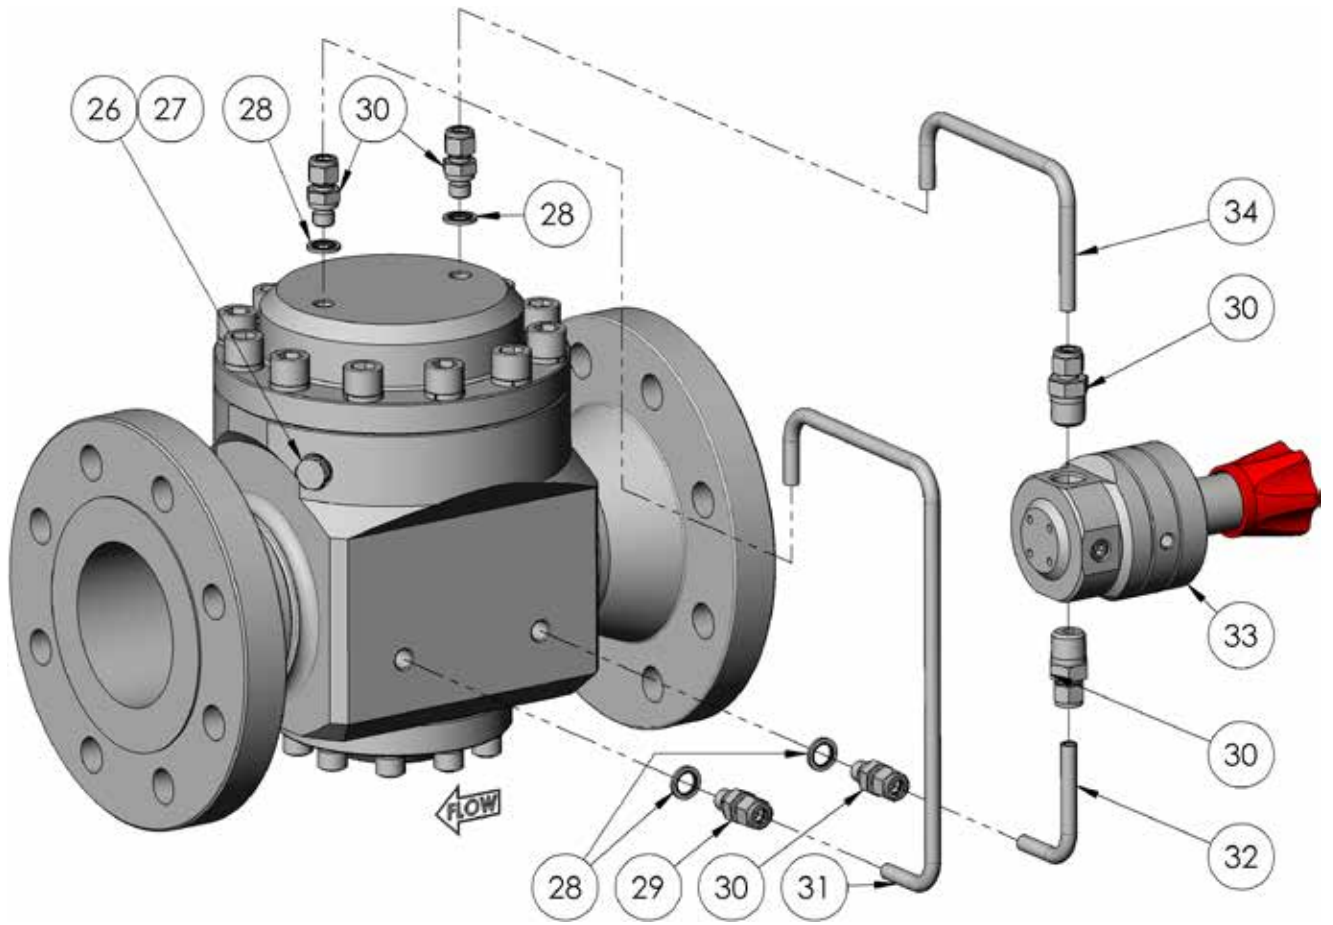
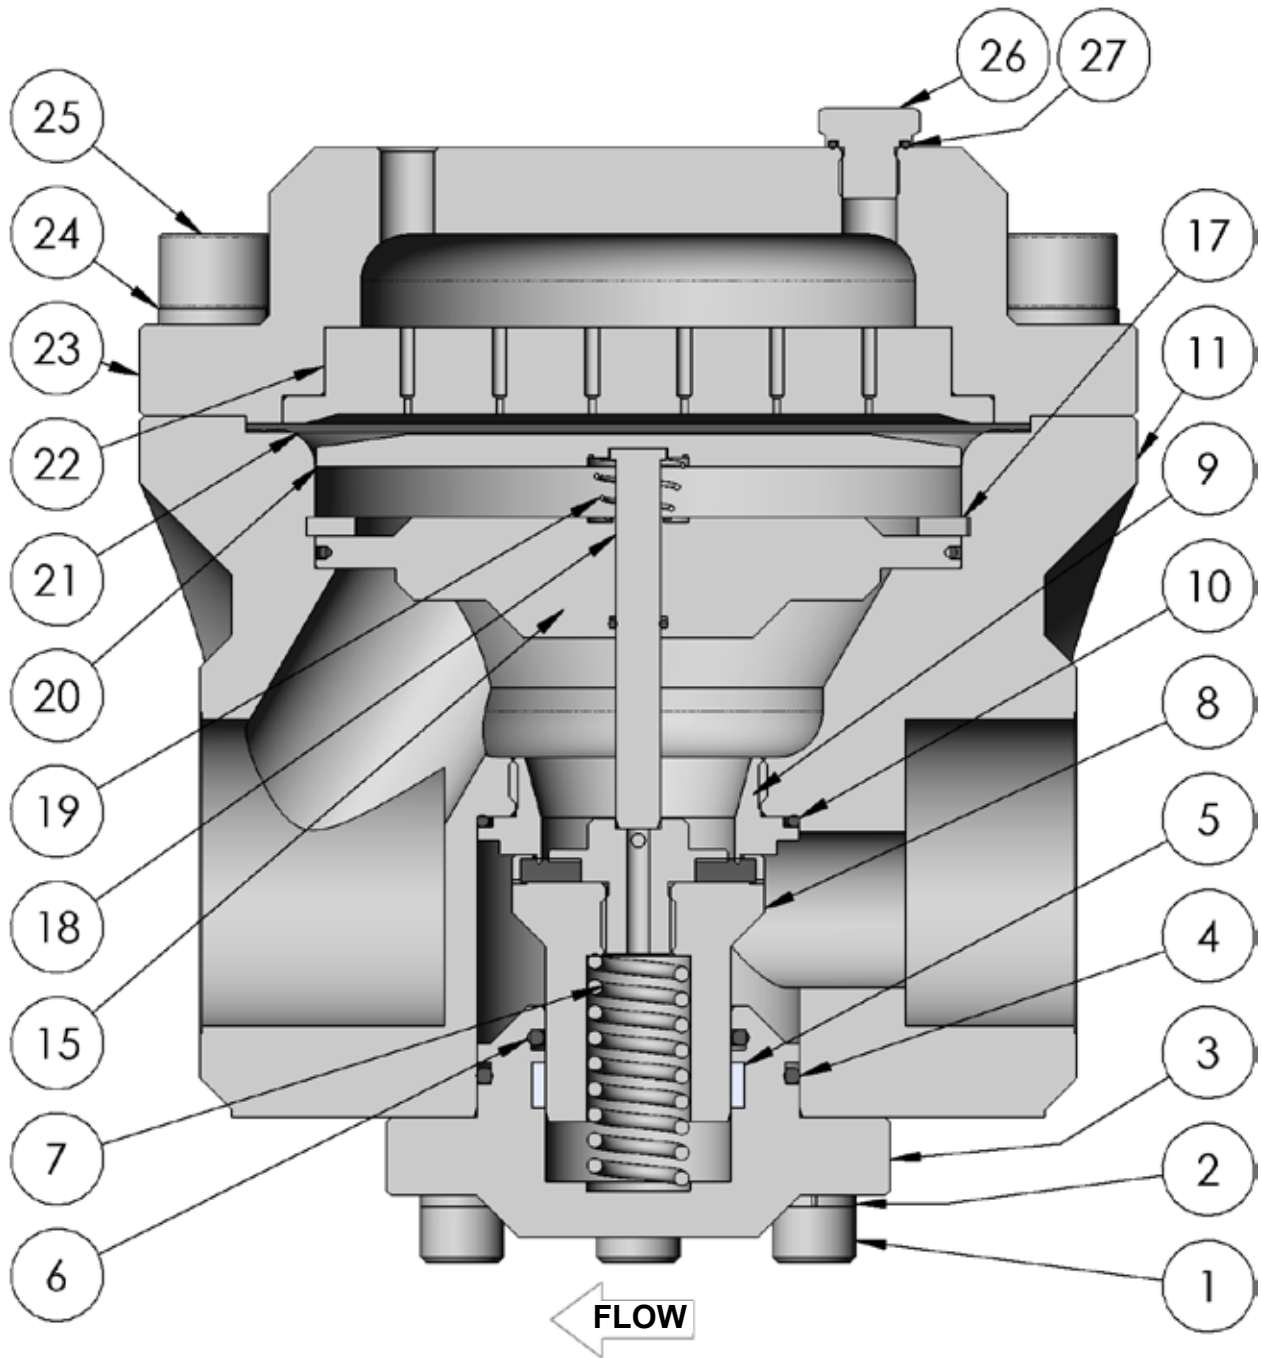

Fig 8
Fig 9
1. Fit the body plate (15) into the body (11) and retain with the retaining ring (17).
2. Fit the seat O-ring (10) into the body (11) and ensure that it is seated all the way round.
3. Lightly lubricate the seat threads (9) then insert the seat into the body (11) using the seat insertion tool. Torque to 22 lbf·ft (30 N·m). Take care not to pinch the seat O-ring (10) or damage the seat (9) with the tool.
4. Insert the poppet (8) through the seat (9) and, if applicable, body plate (15). Take care not to damage either the seat (9) or poppet (8).
5. Place the poppet spring (7) into the poppet (8).
6. Fit the body plug O-ring (4), poppet O-ring (6), and guide ring (5) onto and into the body plug (3).
7. Lightly lubricate the poppet O-ring (6) then fit the body plug (3) over the poppet spring (7) and poppet (8).
8. Lightly lubricate the cap screw threads (1) then use them and the washers (2) to secure the body plug (3) to the body (11). Torque to 37 lbf·ft (50 N·m).
9. For RD30 only, insert the poppet stem (18) through the body plate (15). Reference Fig 9.
10. Place the conical spring (19) onto the body plate (15) then place the diaphragm plate (20) into the body (11).
11. Place the diaphragm (21) onto the diaphragm plate (20) and locate it in the body (11).
12. Place the dome plate (22) centrally onto the diaphragm (21) then cover with the dome (23). Orient the dome ports per Fig 8.
13. Lightly lubricate the cap screw threads (25) then use them and the washers (24) to secure the dome (23) to the body (11). Torque to 66 lbf·ft (90 N·m).
14. If present, install the feed tube (32), dome tube (34) and pilot regulator (33) into the ports on the inlet side of the body (11) per Fig 8.
15. If present, install the bleed tube (31) into the ports on the outlet side of the body (11) per Fig 8. Note that the bleed fitting (29) can be identified by its reduced internal orifice.